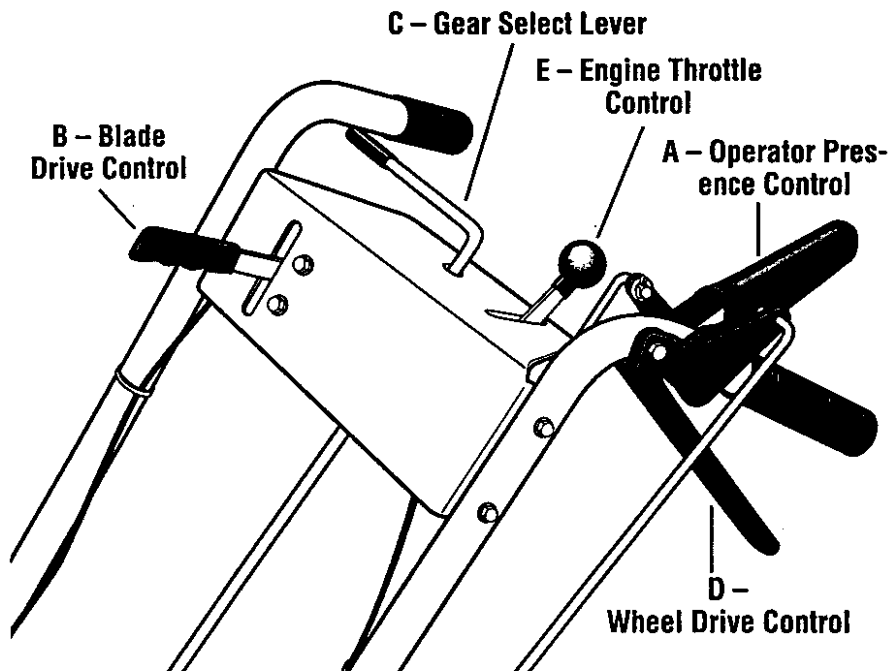

Figure 3-13: Mower Controls.
The mower can be manually pushed or pulled by putting the Gear Select Lever (C, Figure 3-13) in N (neutral) and pressing and holding the Operator Presence Control (A, Figure 3-13) down against the handlebar grip.
3. Move Engine Throttle Control (E, Figure 3-13) fully upward to choke setting to start a cold engine or to fast (rabbit) setting to start a warm engine.
- B. Grasp rope handle (G, Figure 3-13) and pull slowly until rope pulls slightly harder. Let rope rewind slowly. Then pull rope with a rapid, full arm stroke. Let rope return slowly. If engine fails to start after three pulls, repeat instructions starting with Step 2 (try setting throttle at fast setting).
2. Press and hold Operator Presence Control (A, Figure 3-13) against handlebar grip.
3. Slowly push Blade Drive Control (B, Figure 3-13) fully forward until it stays in the engaged position. The blades are now rotating.
- A. Press and hold Operator Presence Control (A, Figure 3-13) against handlebar grip.
- B. Put the Gear Select Lever (C, Figure 3-13) into one of the numbered settings (1 - Slow, 2 - Medium and 3 - Fast). When first practicing with the mower, put lever in No. 1 setting. Select forward speeds according to mowing conditions and terrain. Use slower speeds on rough terrain or when grass is heavy or thick. The forward speed can be increased on smooth terrain or if the grass cover is light. Allow the wheels to stop completely before shifting from one forward speed into another.
- C. To start the wheels, slowly squeeze the Wheel Drive Control (D, Figure 3-13). The harder you squeeze, the faster the wheels will turn. To avoid sudden acceleration, slowly squeeze the lever.
- A. Stop the mower blades and wheels by releasing the Operator Presence Control (A, Figure 3-13).
- C. Put the Gear Select Lever (C, Figure 3-13) in R (reverse) setting by first moving lever to N (neutral). Then pull lever up, turn it to R position, and release lever.
- D. To start the wheels, slowly squeeze Wheel Drive Control (D, Figure 3-13). To avoid sudden acceleration, slowly squeeze the lever.